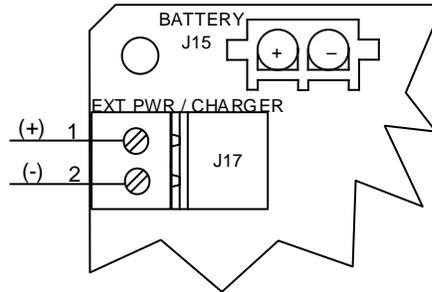

Figure 76: μ FLO^{G5} electronic board power connections
1. Disconnect the external power/charger terminal connector (J17) from the μ FLO^{G5} electronic board (Figure 76).
1. Reconnect the battery cable to J15 on the μ FLO^{G5} electronic board (Figure 76).